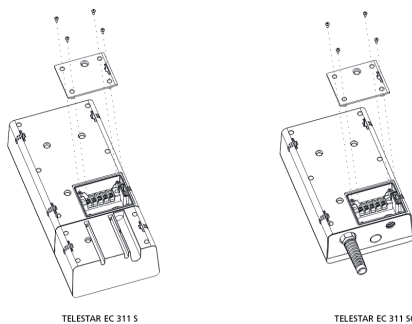

Figure. 8 Fixed terminal cover
1. Remove the cover of the protection box (Figure 8)
3. Reattach the cover of the protection box (Figure 8).